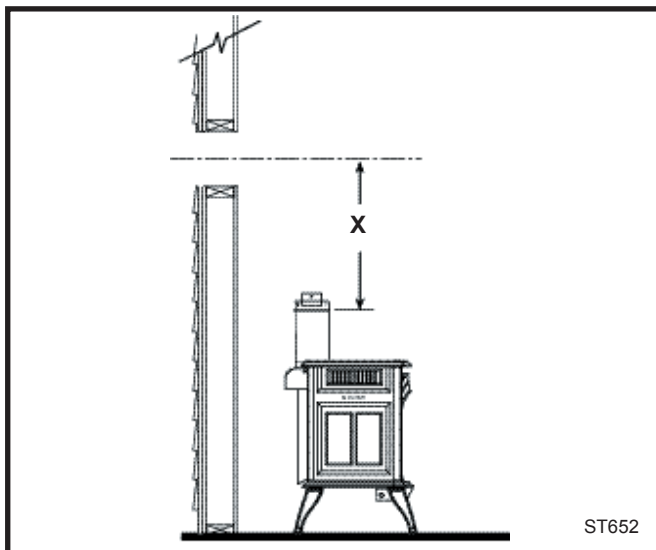

Fig. 26 Determine the vertical pipe length.
**4. For CFM Vent Pipe only:** If necessary, measure to determine the vertical length (X) of pipe required from the adapter pipe to the wall cutout centerline, including a 2" overlap at the joint. (Fig. 26) use a hacksaw or tin snips to trim the pipe as needed.